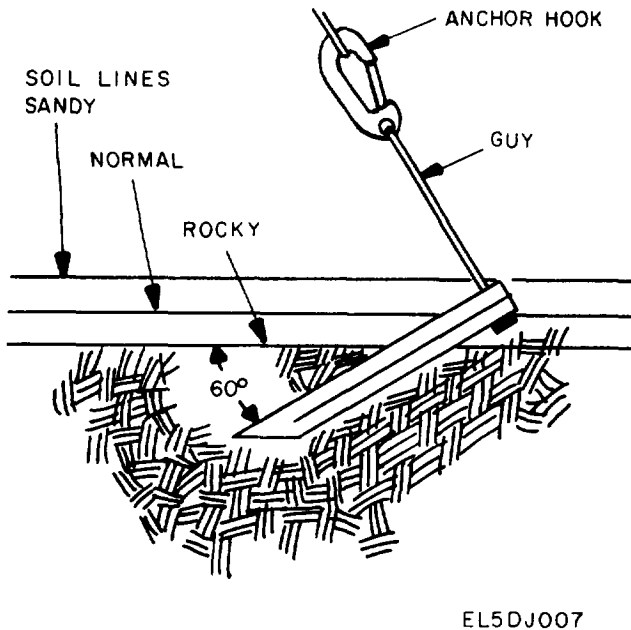

Figure 2-2. Driving Guy stake.
e. Drive the four guy stakes at a 60-degree angle into the earth facing away from the mast (fig. 2-2).